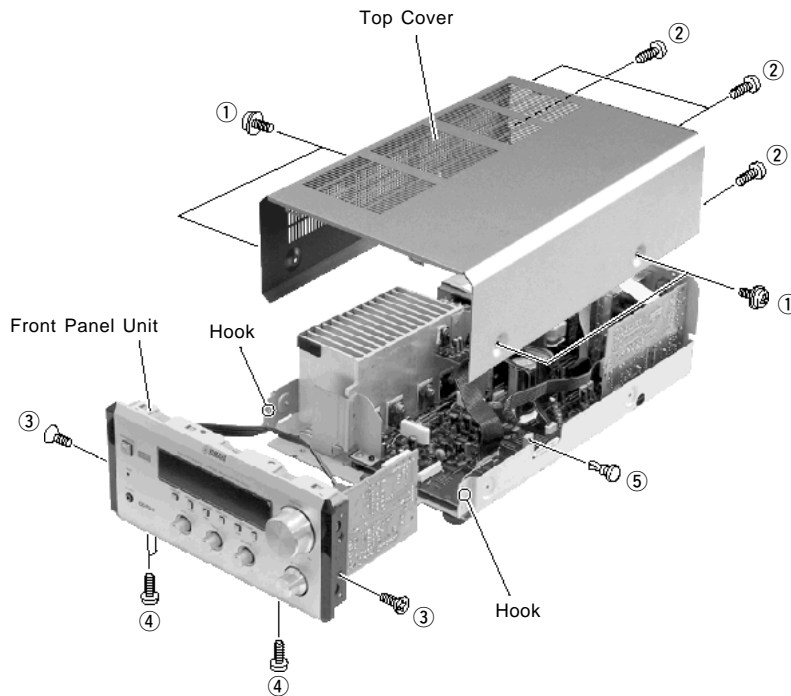

Fig. 1
- ① POWER TRANSFORMER
- ② MAIN (6) P.C.B.
- ③ AM/FM TUNER
- ④ MAIN (2) P.C.B.
- ⑤ OPERATION P.C.B.
- ⑥ MAIN (4) P.C.B.
- ⑦ MAIN (1) P.C.B.
- ⑧ MAIN (3) P.C.B.
- Remove 4 screws (①) and 4 screws (②) in Fig. 1.
- Remove 2 screws (③), 3 screws (④) and 1 plastic rivet (⑤) in Fig. 1.